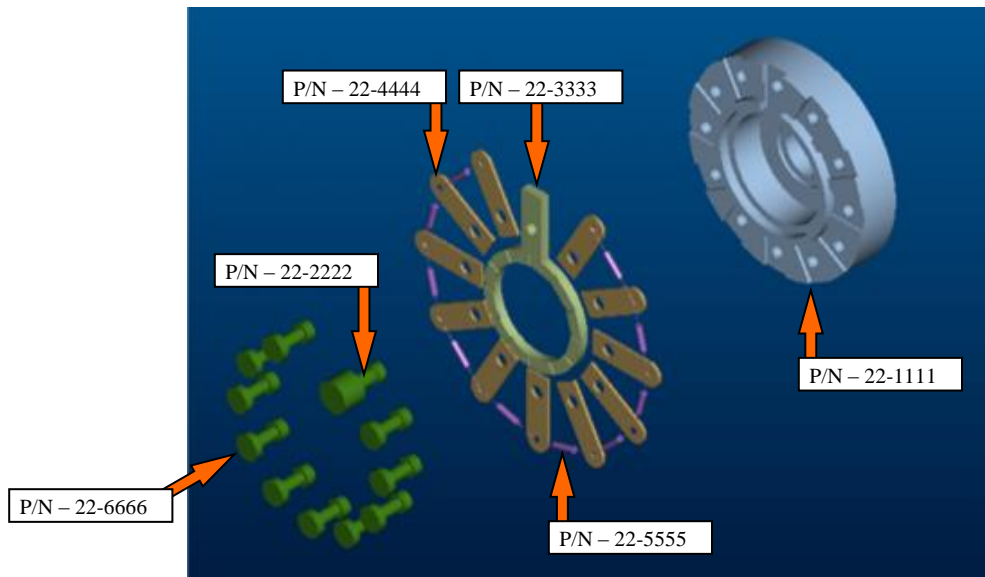
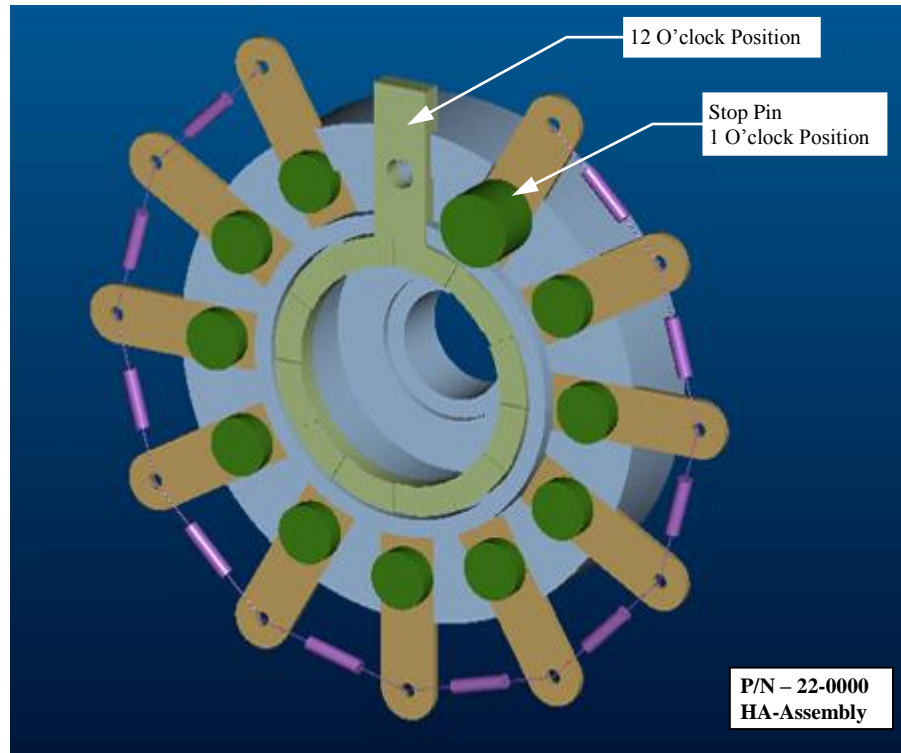

Figure 2: Housing Assembly – Exploded View
Figure 3: Housing Assembly
9.2 Housing Assembly (HA, 22-0000) (Refer to Figure 2 & Figure 3):
NOTE: Refer to *Figure 2* & *Figure 3* for proper positioning of the components.
- 9.2.3.1 Place the Tab (**22-4444, 1x**) into the slot of the Main Housing (at 2 o'clock position) as shown in *Figure 2*. Secure the Tab onto the Main Housing using Tab-Screw (**22-6666, 1x**).
- 9.2.3.2 Repeat Step 9.2.3.1, to install Tab and Tabs-Screw onto the Main Housing from 3 o'clock position to 11 o'clock position as shown in *Figure 3*.